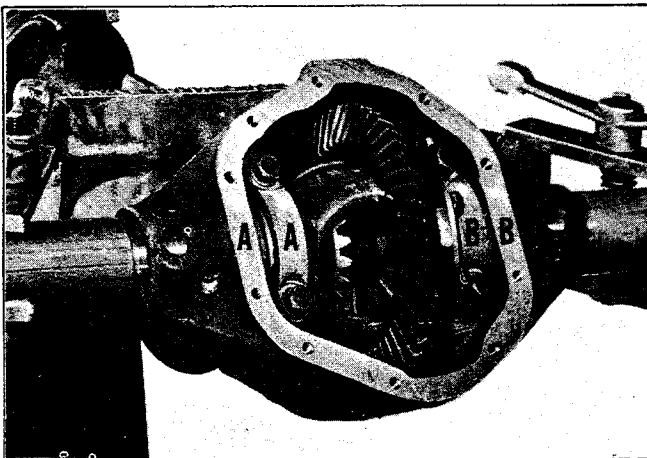
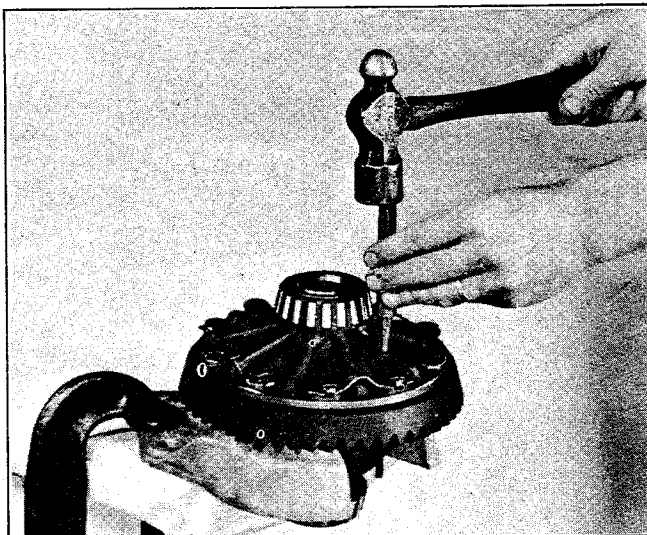

Figure 2-5. Carrier and Bearing Cap Matching Marks
Figure 2-6. Removing Lock Pin
4. Remove differential bearing cap bolts (5) and caps (6), (Figure 2-4). Note matching marks on carrier and differential bearing caps. Refer to Figure 2-5.
5. Pry differential case assembly (7) loose with large screwdriver or bar and lift from carrier. NOTE: Pry out differential case assembly as straight up as possible using leverage against differential and carrier to prevent damage.
6. Remove cups (8) from differential case bearings (9). NOTE: If bearing cones and cups are not worn or damaged and are to be reassembled, make certain that each mating cup and cone are paired together.
7. Drive out lock pin (10) securing differential pinion mate shaft to case (11). See Figure 2-6.